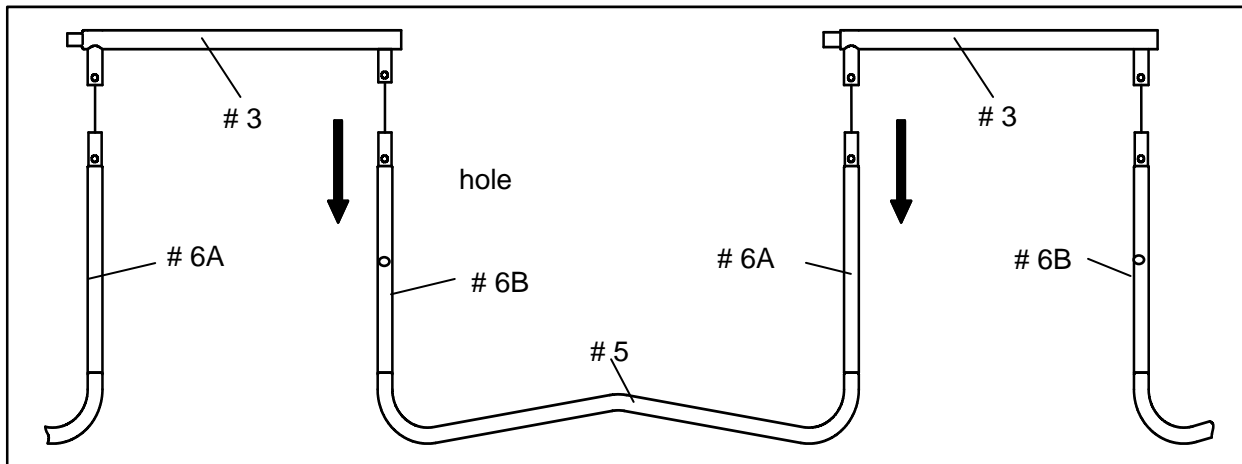

FIGURE 3
- A. Two people will be necessary at this point to assemble the trampoline. One person lifts the Support assembly from STEP 2 to a standing (vertical) position and inserts one of the sockets of the Top Rail with Leg Sockets (# 3) into the Vertical Leg Extension portion of the Support Assembly. The other person holds the other end and inserts that portion into the other Support Assembly as shown. You should now have two Support Assemblies held together by one Top Rail with Leg Socket as shown in FIGURE 3. Repeat the above step until all the support assemblies have been attached to the Top Rail with Leg Socket.